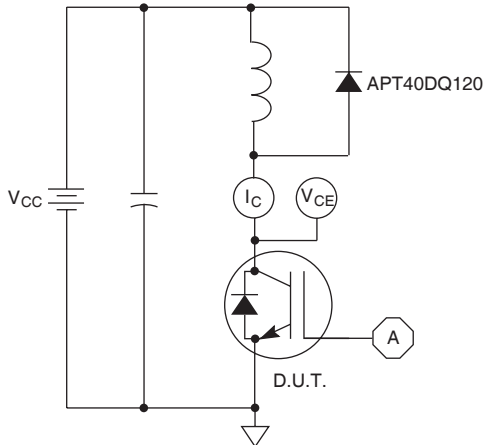

Figure 21, Inductive Switching Test Circuit
- ① Repetitive Rating: Pulse width limited by maximum junction temperature.
- ② For Combi devices,  $I_{ces}$  includes both IGBT and FRED leakages
- ③ See MIL-STD-750 Method 3471.
- ④  $E_{on1}$  is the clamped inductive turn-on energy of the IGBT only, without the effect of a commutating diode reverse recovery current adding to the IGBT turn-on loss. Tested in inductive switching test circuit shown in figure 21, but with a Silicon Carbide diode.
- ⑤  $E_{on2}$  is the clamped inductive turn-on energy that includes a commutating diode reverse recovery current in the IGBT turn-on switching loss. (See Figures 21, 22.)
- ⑥  $E_{off}$  is the clamped inductive turn-off energy measured in accordance with JEDEC standard JESD24-1. (See Figures 21, 23.)
- ⑦  $R_G$  is external gate resistance, not including  $R_{G(int)}$  nor gate driver impedance.
- ⑧ Continuous current limited by package lead temperature.